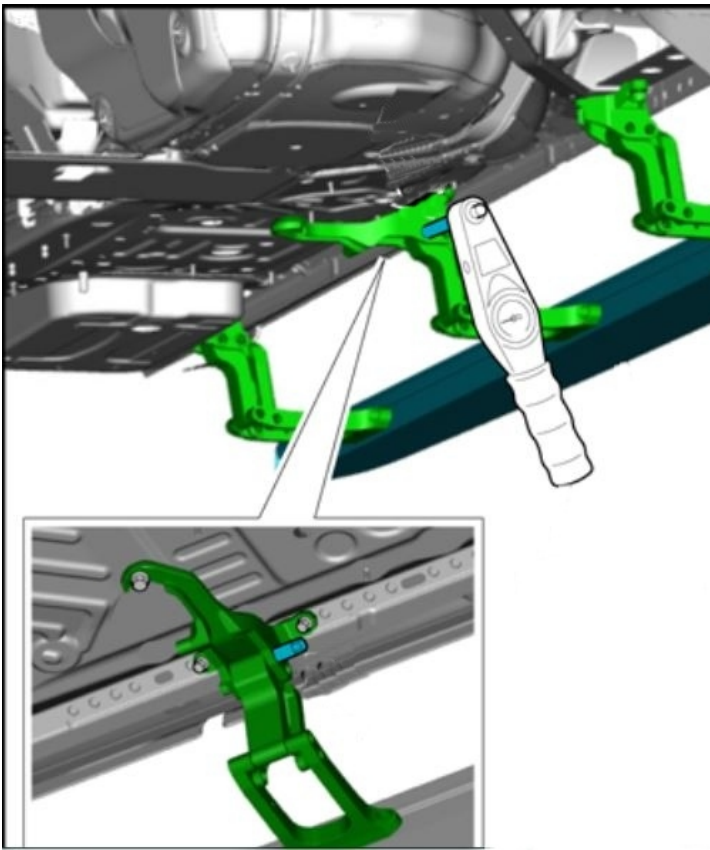

Figure 1
6. Remove both sill step motors and measure the deployment resistance – figure 1 - Refer to *Repair Group 66 - Exterior equipment – Accessories – Deployable sill steps – to fit*. **Video** the procedure and provide results.